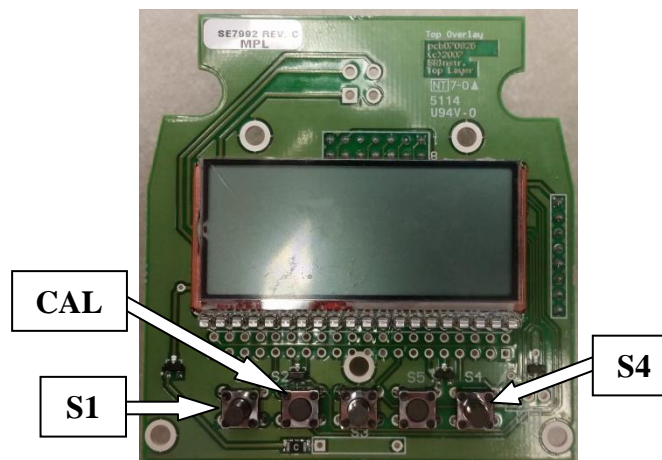

Figure 8: Calibration Buttons
- STEP 2:** Remove the center Top Panel and disconnect the two (2) cables from the Transducers. Turn the Top Panel over and remove the four (4) screws and the clear Plastic Cover from the Display housing.
- STEP 3:** Remove the four (4) screws holding the Display housing to the Top Panel and remove housing. Run the two cables from the Display housing under the Transducer and reconnect to the Transducer connectors.
- STEP 5:** Press the calibration button “S2” (Figure 8). The display will read “CAL”.